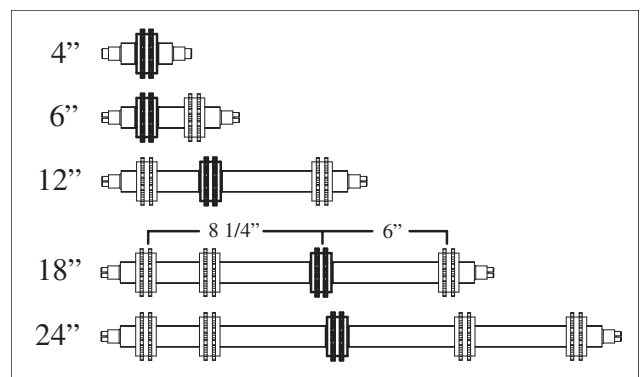

Figure 39
3. As required, install free moving sprockets as per Figure 39. Items in bold are the fixed drive sprockets.